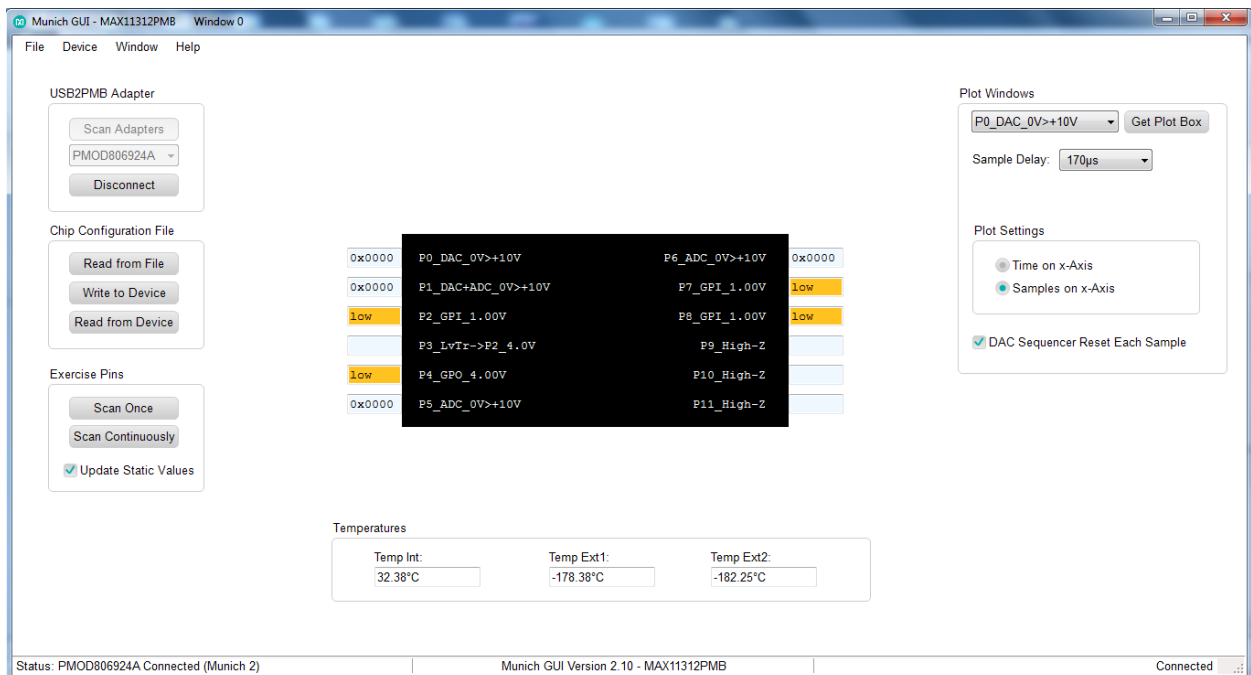

Figure 20. Pin Configuration
6. After the Example Register File is written, the screen on the GUI appears as shown in **Figure 20**.